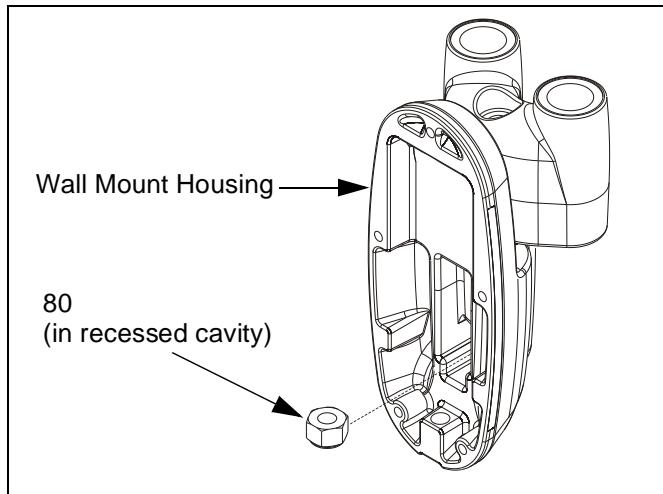

Figure 8: Install Nut
- Insert nut (80) into recessed cavity of wall mount housing as shown (See Figure 8).